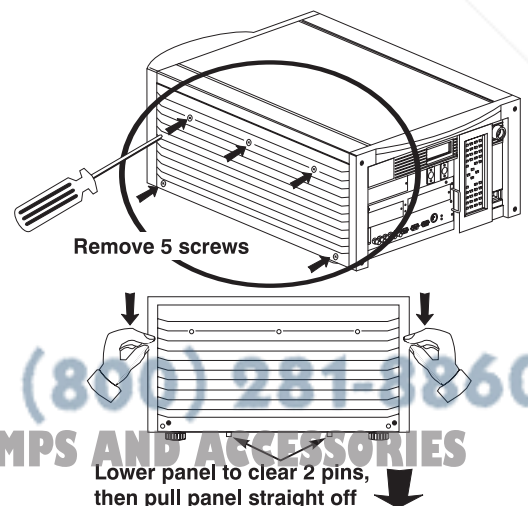

Figure 4.8. Remove the right side panel
- See Figure 4.8. Remove the 5 screws securing the projector’s right side panel.